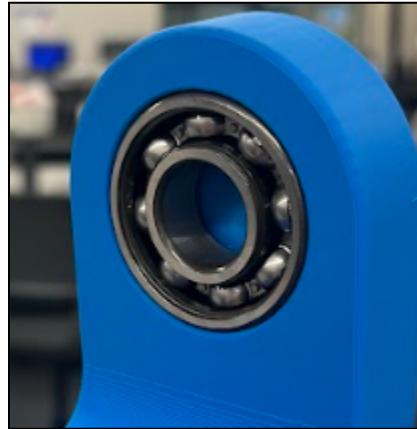

Figure 43: J5 Bearing to J5 Bearing Holder
- Press fit the Bearing into the holder. It should be a snug fit. See Figure 43.